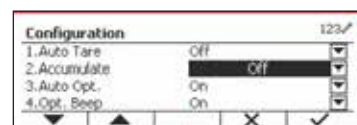

Figure 51
2. Select the list item and press the softkey corresponding to the icon to change the setting as desired. (See Figure 51)